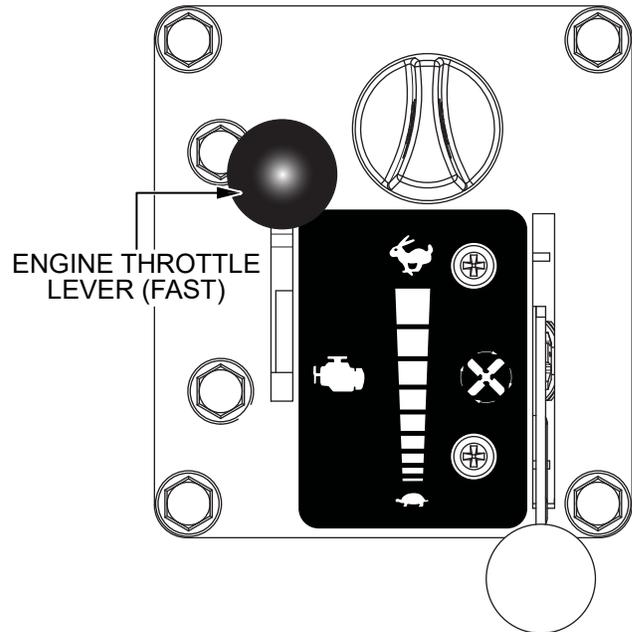

Figure 22. Engine Throttle Lever (Fast)
6. Place the engine throttle lever in the **FAST** (rabbit) position. See Figure 22.